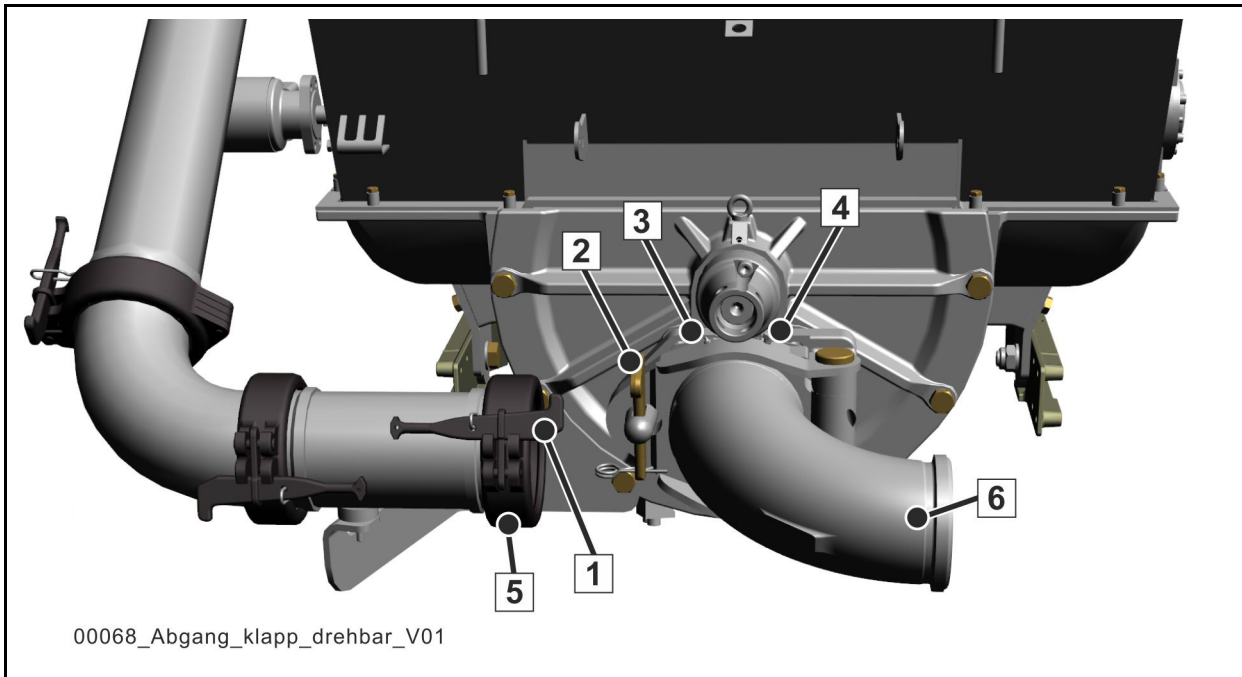

Fig. 71 Outlet, foldable and rotatable
In order to connect a separate pumping line more easily, certain SCHWING truck-mounted concrete pumps can be optionally equipped with a foldable and rotatable outlet (6; **Fig. 71**).
- Pull the clip pin and remove the wedge (1) and coupling (5) first
- Pull the clip pin and remove the wedge (2)
- Loosen both the safety screw (4) and the second safety screw offset by 180° by approx. half a rotation
- Rotate the foldable and rotatable outlet into the required position (e.g. 6; **Fig. 71**) and fold it back
- Reinsert the wedge (2), but do not hammer it in place yet
- If necessary, correct the position of the foldable and rotatable outlet and then hammer the wedge (2) down. Secure the wedge using the clip pin.
- Reattach the upper and lower safety screws (4) Connect a separate pumping line.
Once a week, squeeze some lubricating grease into the grease nipple (3) (**Fig. 71**) and into the second nipple offset by 180°.